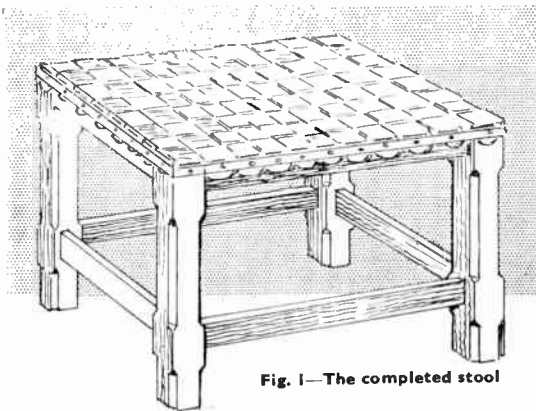

Fig. 1—The completed stool
**T**HE neat little stool shown in our illustration at Fig. 1 is very simple to make and would form a delightful gift. The ordinary kit of household tools will be found sufficient for the job, just the usual handsaw and tenon saw, mallet and chisels.